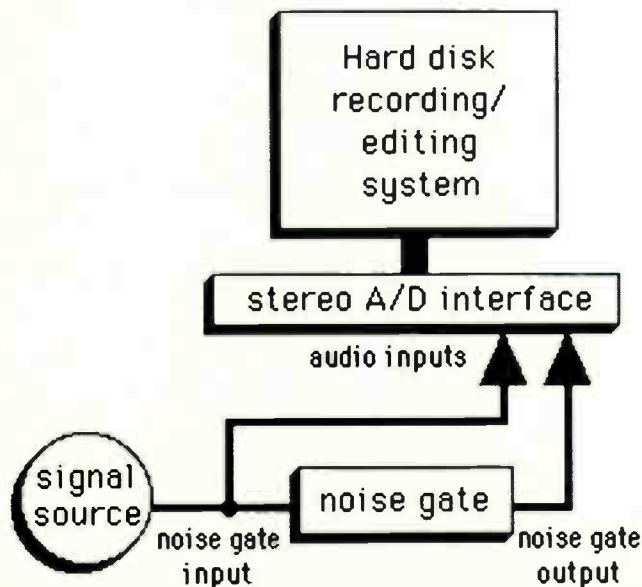

Figure 1
One of the characteristics that separates a superior noise gate from a so-so model is how fast it opens up in response to an input signal. To test this, split a percussive audio signal to one channel of your hard-disk system and patch the other split to the noise gate input. Feed the noise gate output to the second hard-disk channel (fig. 1).
360 Systems audio switcher handles the SMPTE timecode (TC) routing. JH24 synchronization chores are handled by a TimeLine Lynx. This is a serious personal facility, so everything is referenced to house sync and the exact same type of SMPTE timecode is used everywhere. (See fig. 1 for an example of house sync routing.)
House Sync, Figure 1